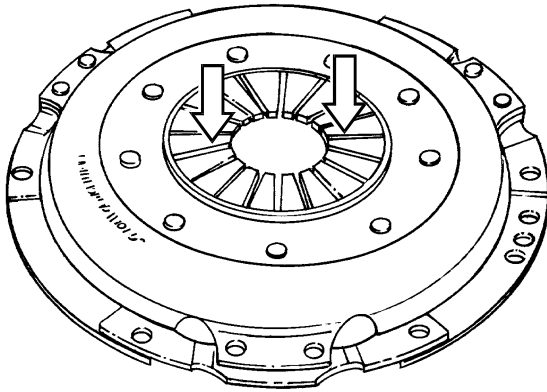

Figure 120 - Diaphragm Levers - Inspection
- c. Inspect the diaphragm levers for wear and even height (Fig 120).